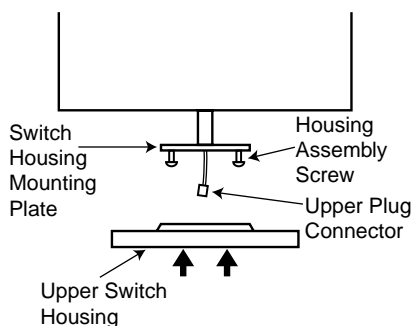

FIGURE 14
- A. Partially install two #6-32 x 3/8" housing assembly screws into the switch housing mounting plate as shown in Figure 14.
- B. Feed the upper plug connector through the center opening of the upper switch housing. See Figure 14.